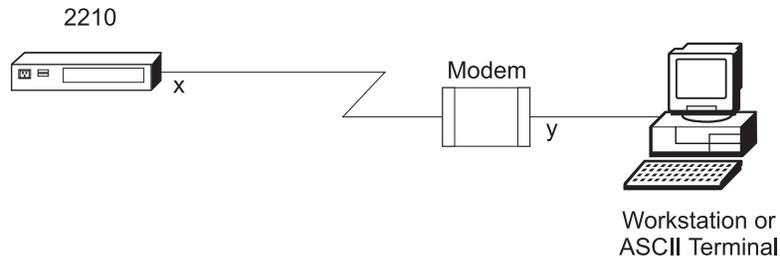
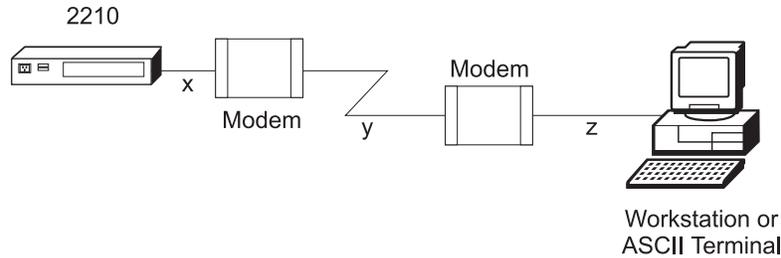

Figure 3-2. Remote Connection to 14.4 Kbps Modem Port Feature (14T and 24x Models)
Figure 3-3. Remote Terminal Connection to the Primary or Secondary EIA-232 Service Port
- Remotely using dial-in (over telephone lines) through a modem attached to the EIA-232 primary service port or the secondary service port, if installed. You can use an ASCII connection. The secondary service port can be either an EIA-232 Service Port Feature or a 14.4 Kbps Modem Port Feature. See Figure 3-2 on page 3-2 and Figure 3-3 on page 3-2.